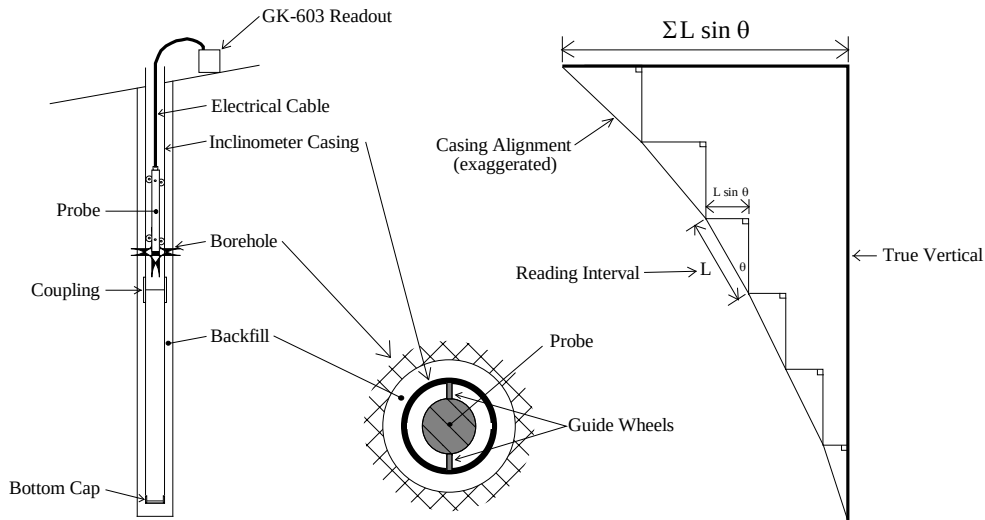

Figure 73 - Inclinator Survey Description
Subsequent surveys of the inclinometer casing, when compared with the original survey, will reveal any changes of inclination of the casing and locations at which these changes are taking place. Analysis of the change of inclination is best performed by computing the horizontal offset of the upper wheels relative to the lower wheels which has produced the tilting (θ) over the reading interval (L) of the survey (usually the wheel base of the probe, 2 feet for English systems, .5 meter for Metric). At each position of the inclinometer the two readings taken on each axis (A+, A- and B+, B-) are subtracted from each other leaving a measure of $\sin\theta$. This value is then multiplied by the reading interval (L) and the appropriate factor to output horizontal deflection in engineering units (inches for English, centimeters or millimeters for Metric) (see Figure 73).